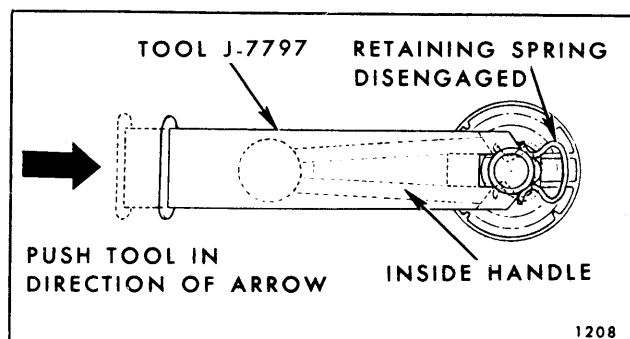

Fig. 14-15—Quarter Window Handle Removal
1. Depress quarter trim assembly sufficiently to permit insertion of tool J-7797 between handle and plastic bearing plate (Fig. 14-15). As shown in illustration, tool must be in same plane as handle.